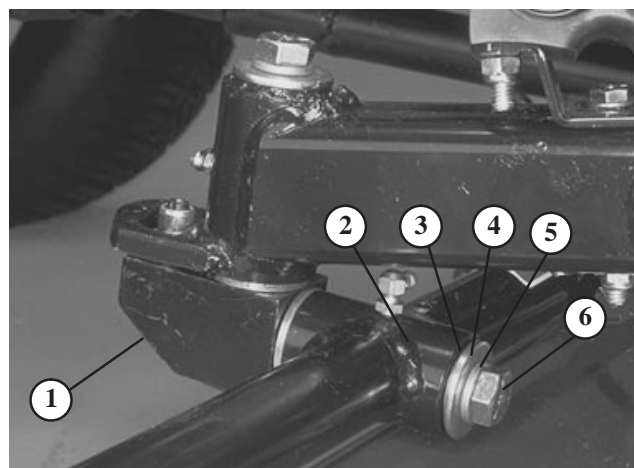

Figure 9
7. Align the mounting shaft of the cutting unit with the pivot tube on the carrier frame. Insert the shaft into the tube (Fig. 9).
8. Secure shaft in pivot tube with a thrust washer, flat washer, lock washer, and capscREW (Fig. 9).